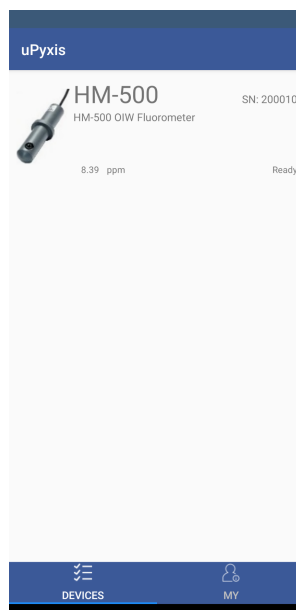

Figure 8.
3. If the connection is successful, the HM-500 Series and its Serial Number (SN) will be displayed (Figure 8).